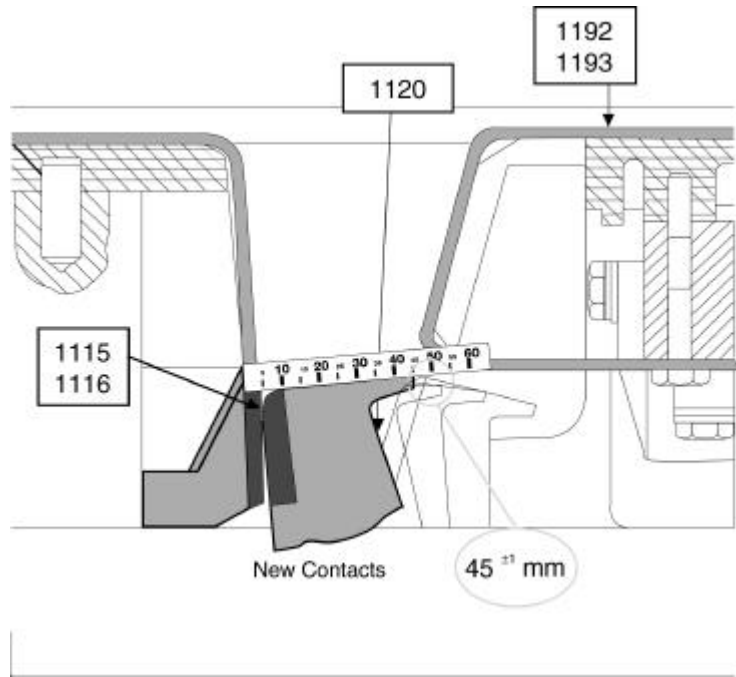
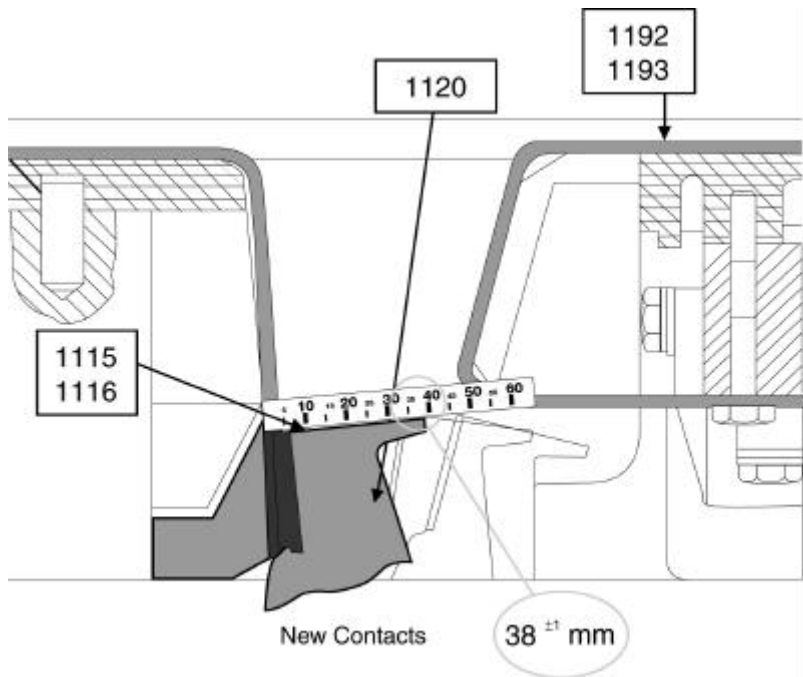

Figure 6 Circuit-breaker manually closed measurement of new contacts
Figure 7 Circuit-breaker manually closed measurement of worn contacts
As an alternative; measure contact wear with a manual inspection closing device (350). (See Figure 6 & Figure 7)